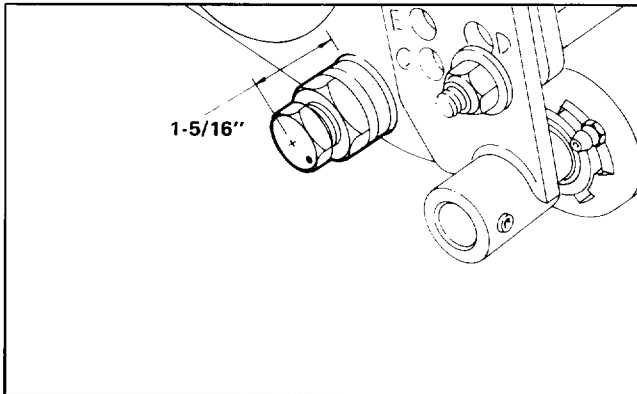

Figure 20
7. Mount left side of bedbar to sideplate with eccentric pivot bolt, jam nut and plastic washer. Position washer between bedbar and sideplate. Thread pivot bolt into bedbar until the distance from top of pivot bolt and sideplate is 1-5/16" with identification dot positioned to rear. Do not tighten jam nut at this time (Fig. 20).